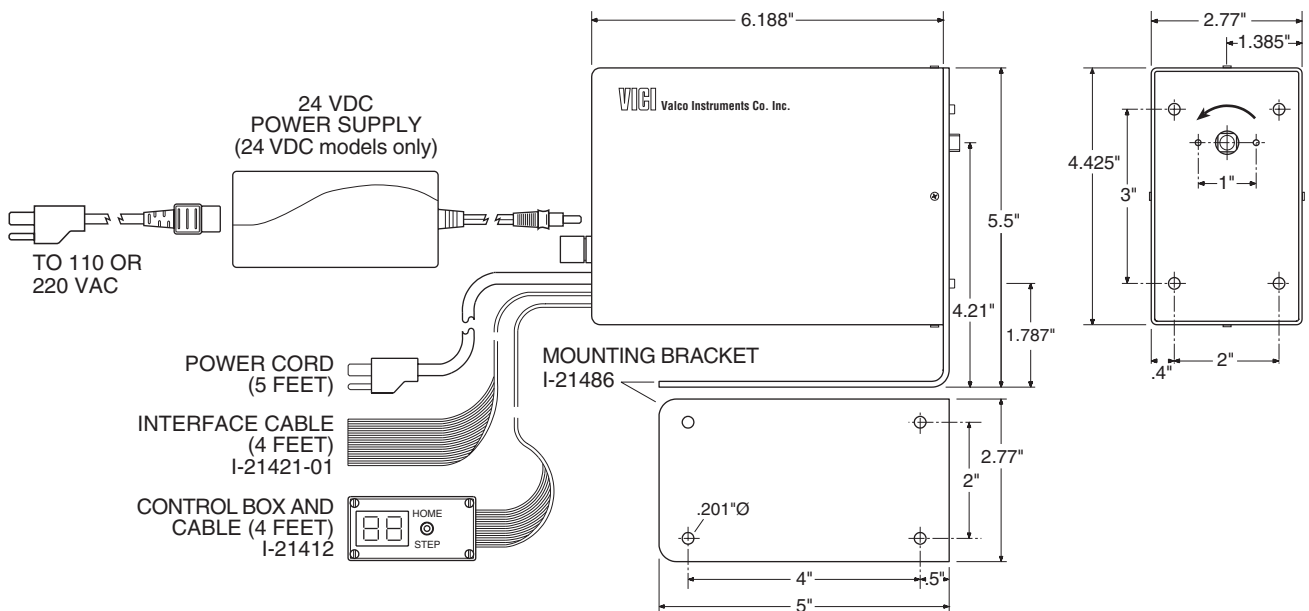

Figure 1: Actuator mounting dimensions
1. Plug the electric actuator into a power outlet (110 VAC or 220 VAC, 50/60 Hz, as required). The LED indicator in the control box (**Figure 1**) will display the position of the valve/actuator.